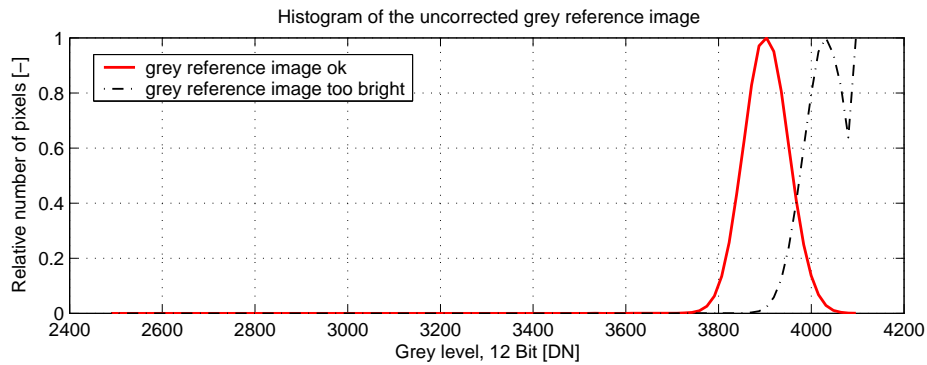

Figure 4.39: Proper grey reference image for gain correction
- When looking at the histogram of the grey reference image, ideally there are no grey levels at full scale (4095 DN @ 12 bit). All pixels that are saturated white will not be properly corrected (see Fig. 4.39).